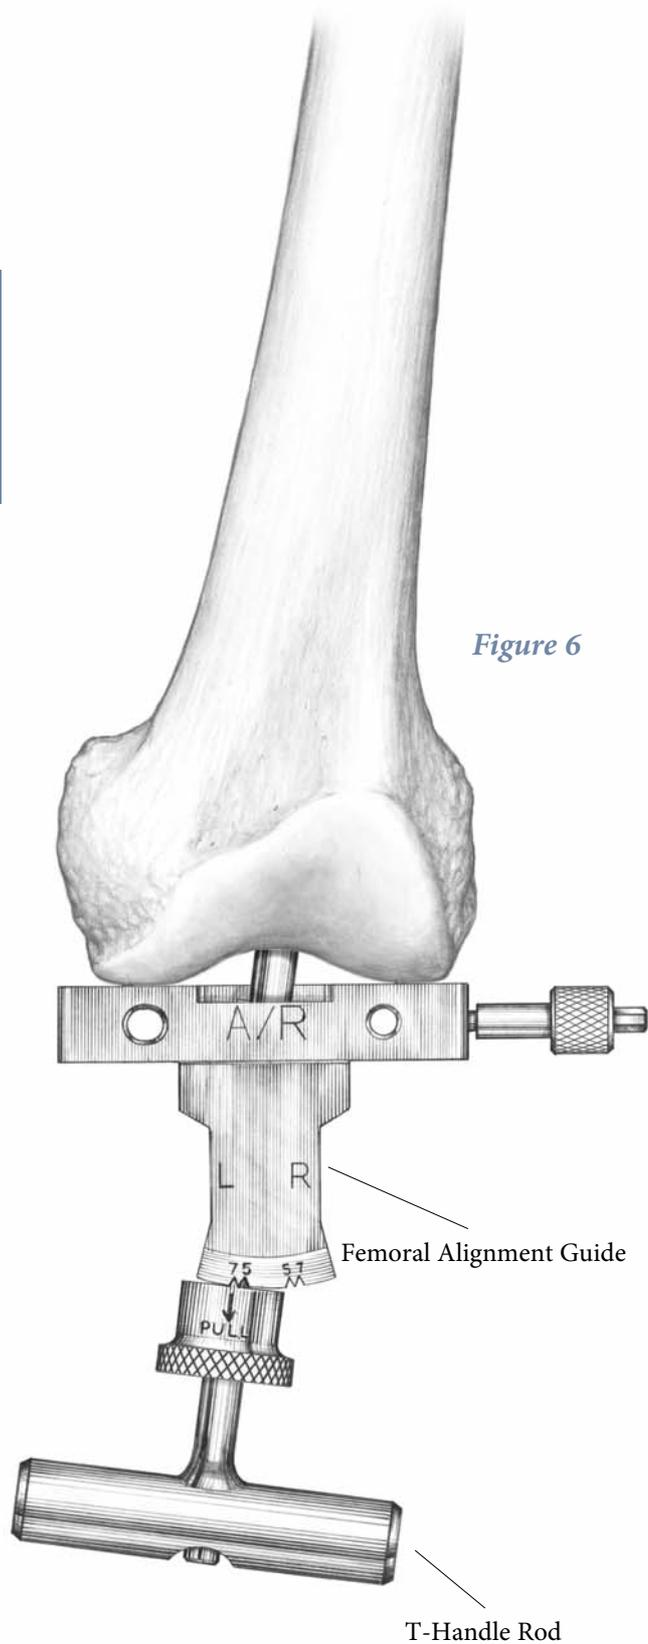
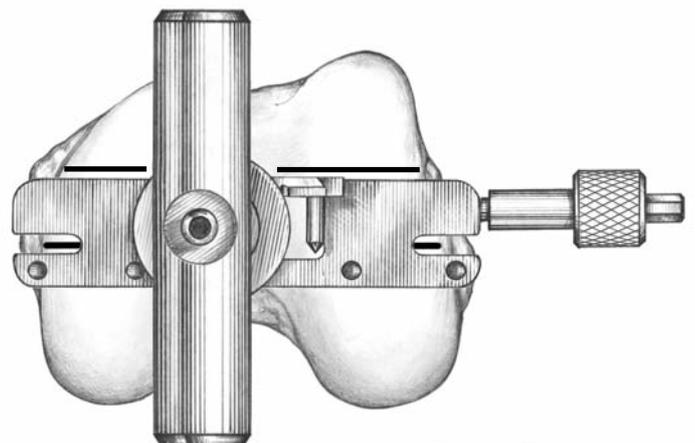

Figure 6
Figure 7
- ▶ Insert the Femoral Alignment Guide into the intramedullary hole (Figure 6), lining up the slots on the Femoral Alignment Guide with the epicondylar axis (Figure 7). Use two 1/8" diameter pins through the distal holes to secure the Femoral Alignment Guide to the distal femur.